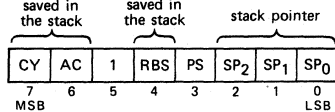

Fig. 19 Program status word.
**Program status word** (see Fig. 19)